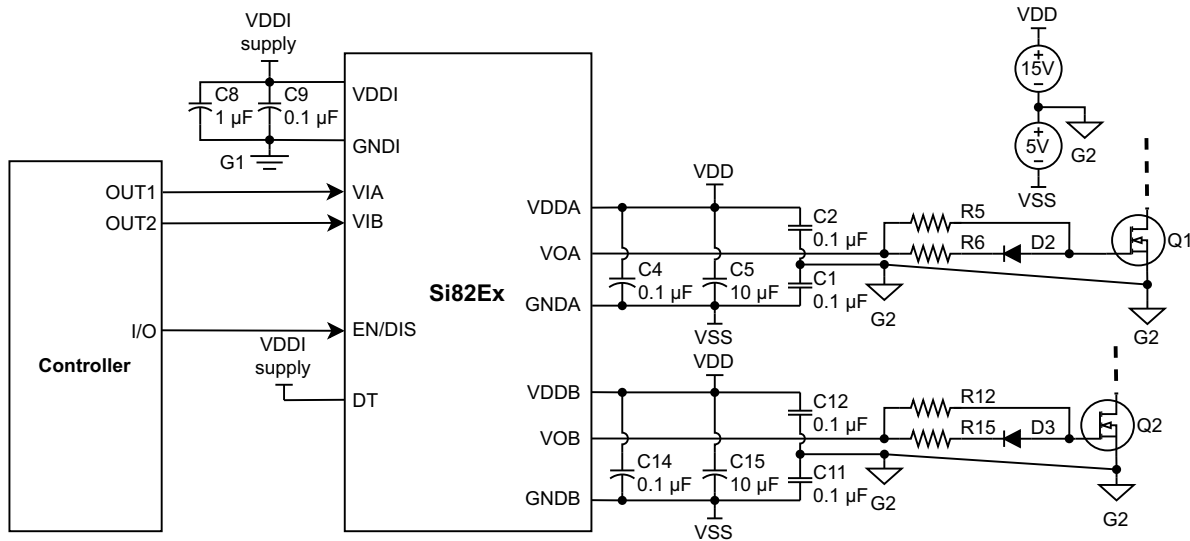

Figure 19. Dual Low-Side Driver Application Circuit
Figure 19, “Dual Low-Side Driver Application Circuit,” below depicts the circuit for driving dual low-side FETs. When the dead time pin (DT) is tied to the logic input supply (VDDI), the Si82Ex device operates as a dual gate driver without overlap protection or dead time insertion. In this dual driver mode, the Si82Ex device can be used for high-side/low-side, dual high-side, dual low-side, or any circuit topology. However, the controller is responsible for providing overlap protection and dead time insertion. In the dual low-side circuit topology depicted below, the +15 V and –5 V sources are shared by gate drivers A and B to generate bipolar  $V_{GS}$  outputs. For a dual high-side application, Driver A and B cannot share the same power supply and will require the individual isolated power supplies, even if the  $V_{GS}$  output is unipolar.